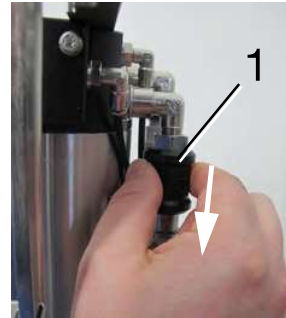

Fig. 1-2 1 Air release valve
- Push the air release valve (1, Fig. 1-2) against the direction of flow (see arrow), thereby opening it.